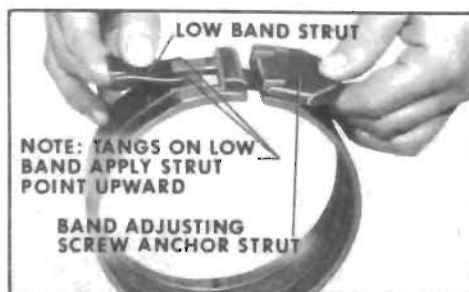

Figure 5-310
3. This picture is for illustration purposes only. It shows the proper positioning of the low band apply strut and band adjusting screw anchor strut. See Figure 5-310.